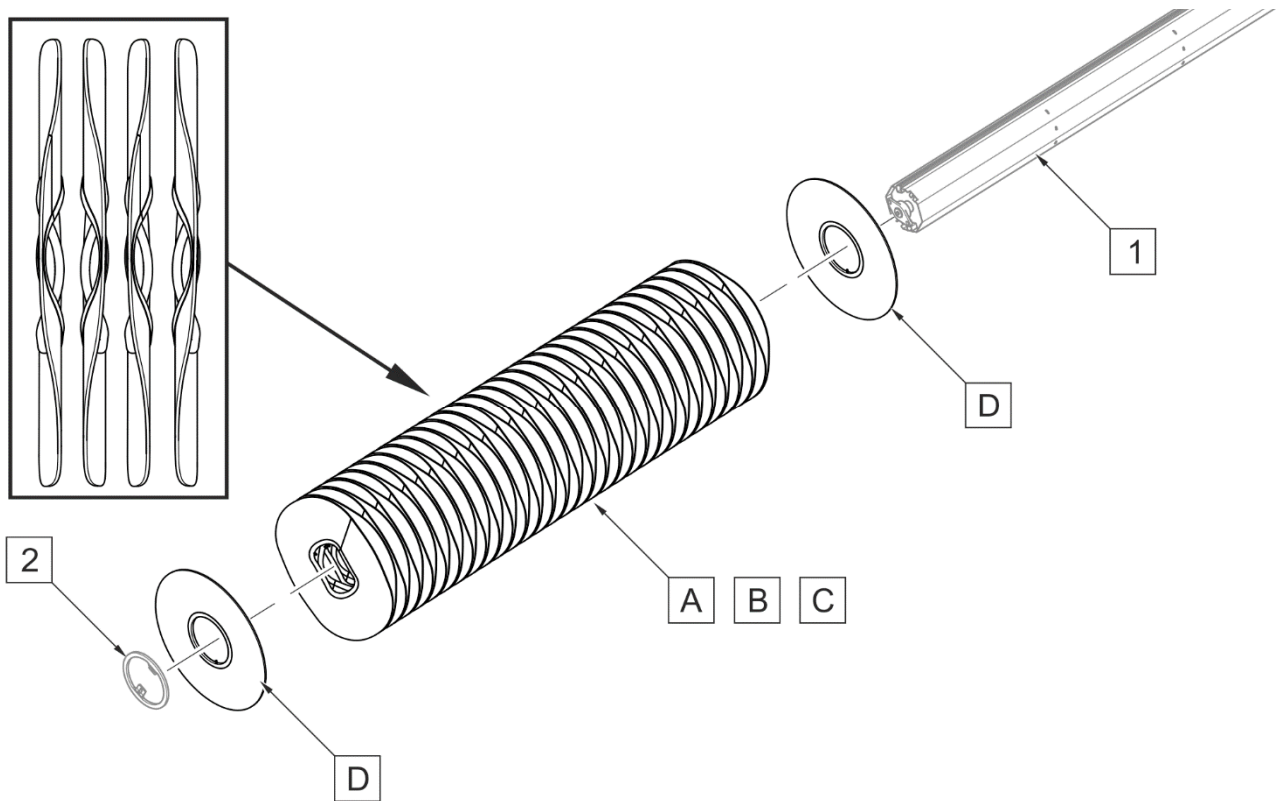

FIGURE 5.9 Roller brush, so-called "honeycomb"
In case of the roller brush consisting of bent segments (FIGURE 5.9), start and finish installing the segments on the shaft with the external straight segment (D). Install bent segments (A,B,C) in such a manner as to ensure that they form so-called "honeycomb". In case of hard brush, install segments (A) and (C) alternately. Do not use spacer rings between the brush segments. After installing all the segments, mount the end ring (2) on the end of the shaft. Types of bent segments are given in (TABLE 5.2)